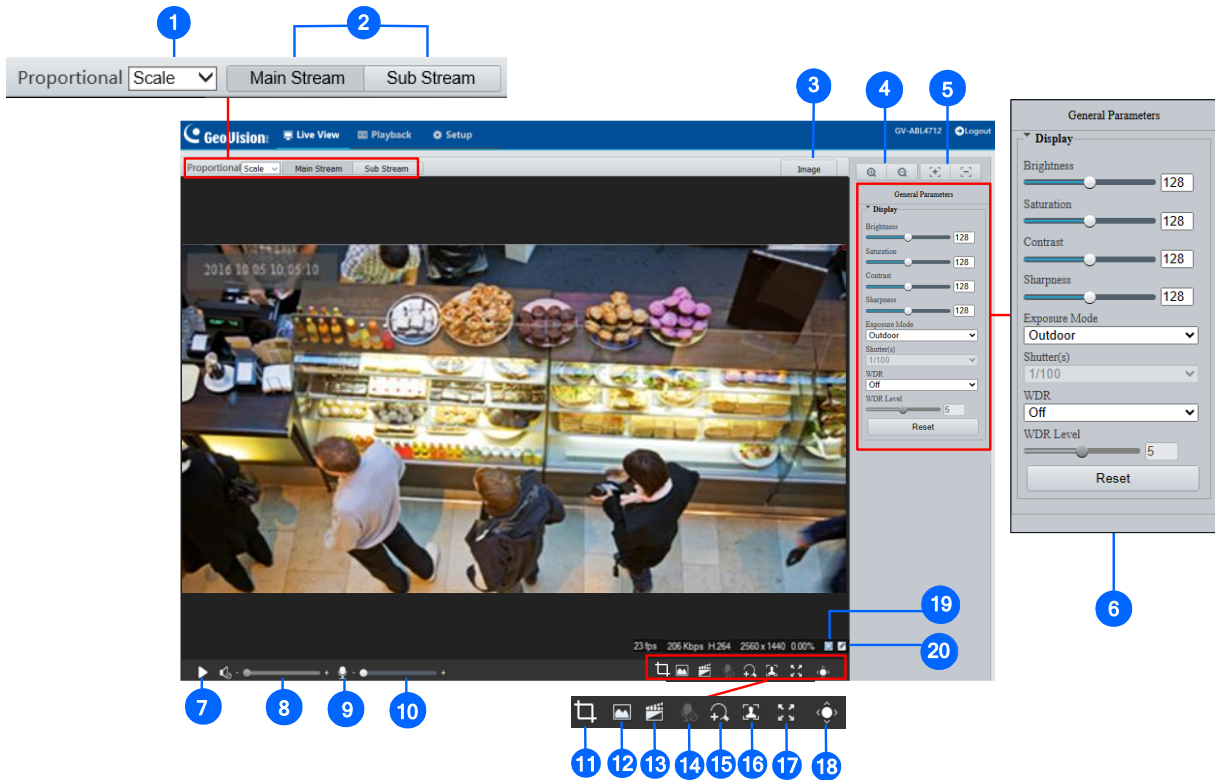

Figure 2-3
1. Click  (No. 13, Figure 2-3) on the toolbar.
4. To exit, click  (No. 13, Figure 2-3) on the toolbar.